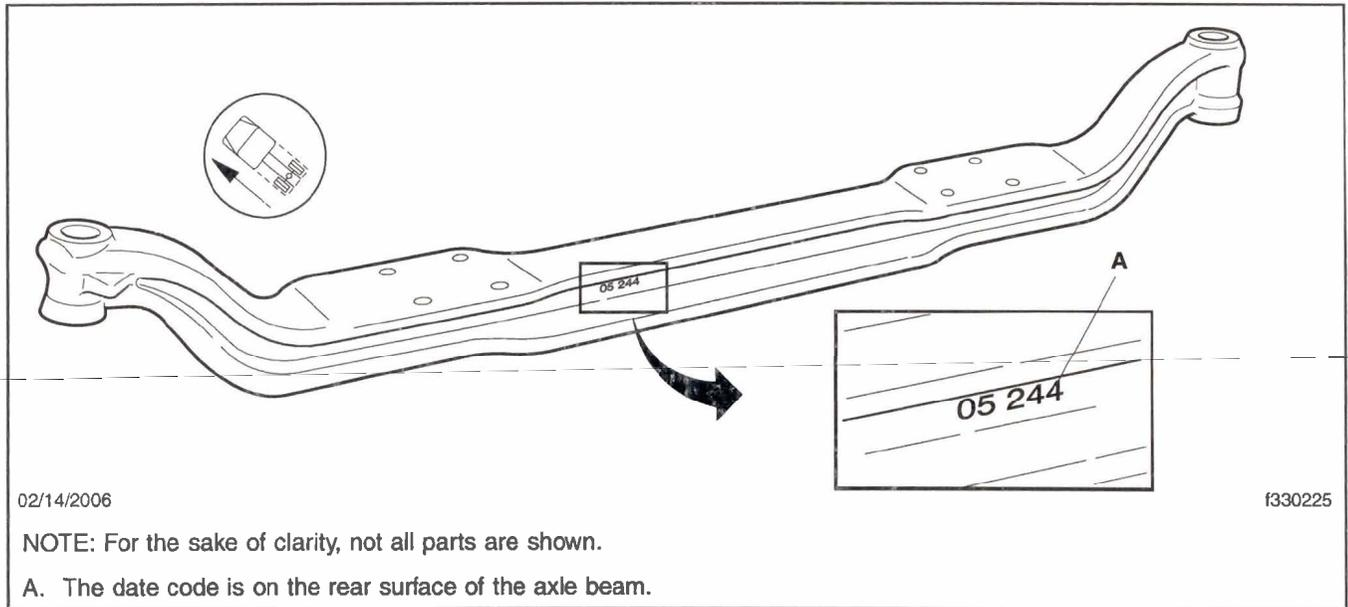

Fig. 1, Location of Date Code on Front-Axle Beam
3. Find the date code on the rear surface of the axle I-beam web, on the driver's side and near the U-bolt pad. See **Fig. 1**. Affected axle beams are those with the date code *05 244*.